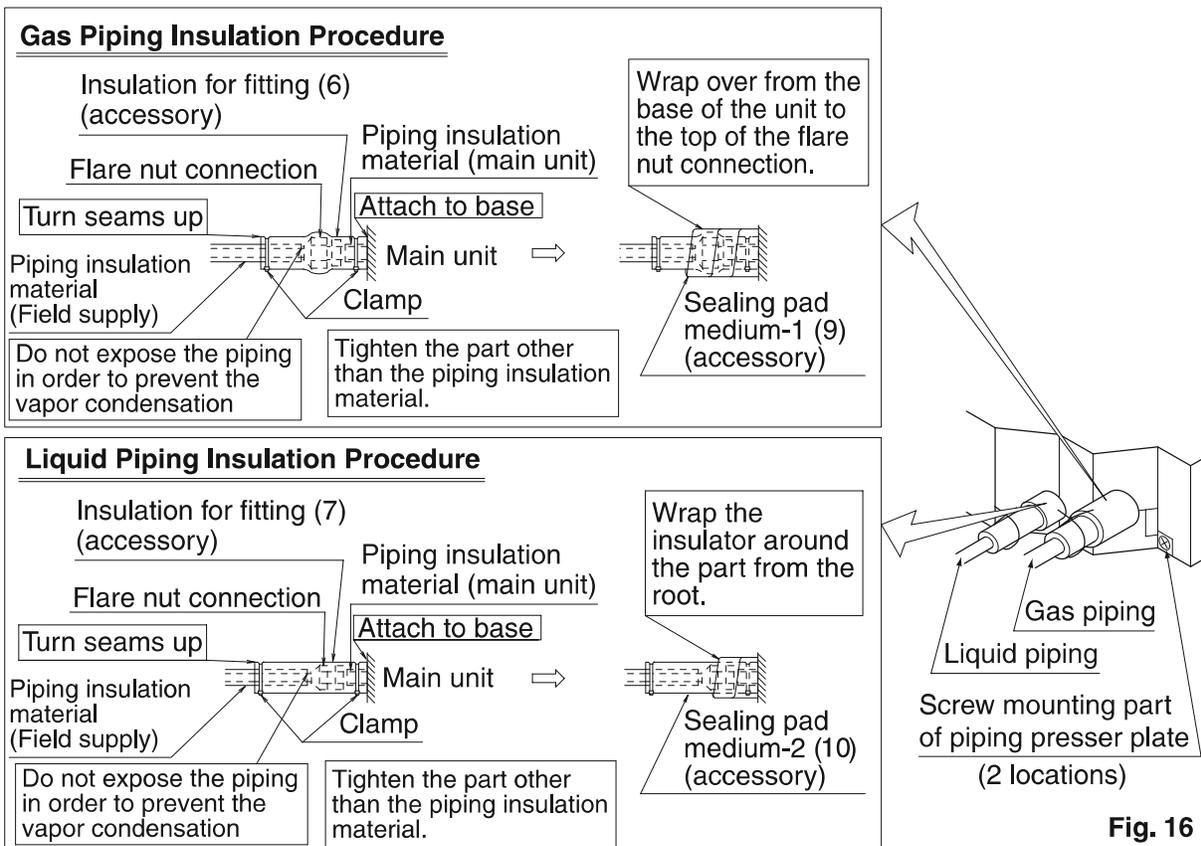
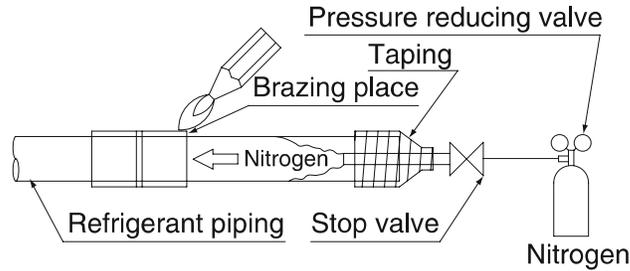

Fig. 16
Fig. 17
- After leak test, referring to **Fig. 16**, insulate both the gas and liquid piping connection with the attached joint insulating for fitting (6) and (7) to prevent the pipings from getting exposed.
- Before brazing refrigerant piping, have nitrogen flow through the refrigerant piping and substitute air with nitrogen (NOTE 1) (Refer to Fig. 17). Then, carry out brazing (NOTE 2). After all the brazing works are finished, carry out flare connection with the indoor unit. (Refer to Fig. 16)